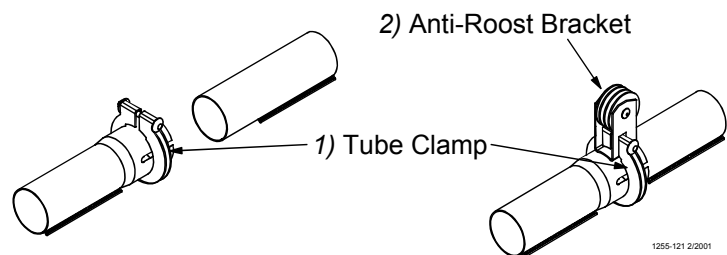

Figure 31. Tube Clamp and Tube Clamp with Anti-Roost Bracket
4. Place a Tube Clamp Assembly or Clamp/Anti-Roost Bracket at each joint. Figure 31 shows the standard Clamp and Clamp/Anti-Roost Bracket. Systems using 9' or 10' tubes require a Clamp/Anti-Roost Bracket at every **fifth** joint. Systems using 12' tubes require a Clamp/Anti-Roost Bracket at every **fourth** joint. All other joints in the system use the standard Tube Clamp Assembly.